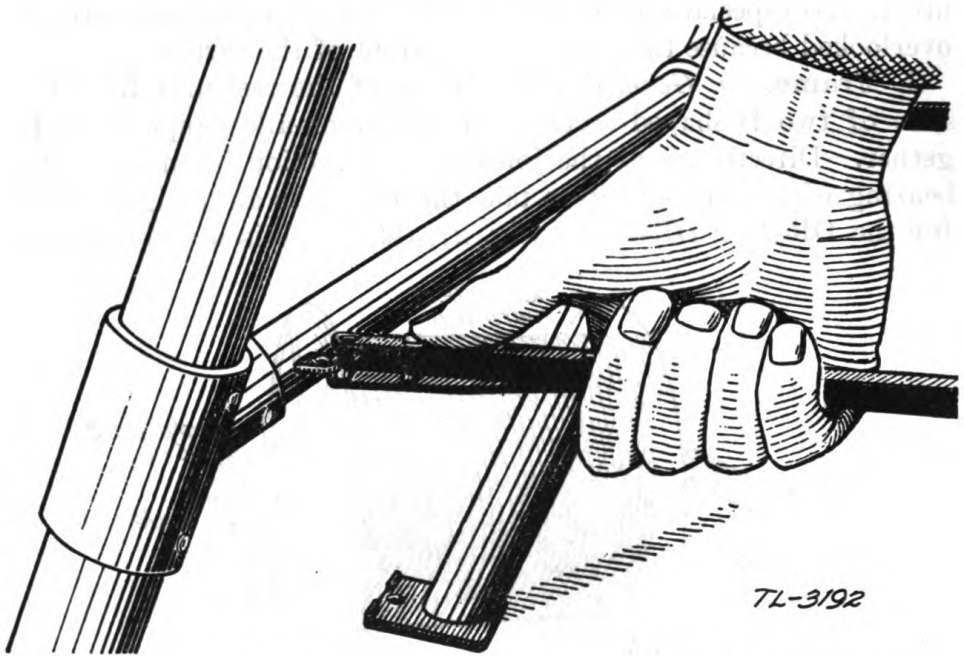

FIGURE 3.—Method of operating the pin catch on early models of reel unit RL-31.
b. Pin catches.—In early models of the RL-31, the pin catch of the cross braces is opened by pressing down on a pin just behind the hole in the end, as shown in figure 3. If this spring loses its tension,